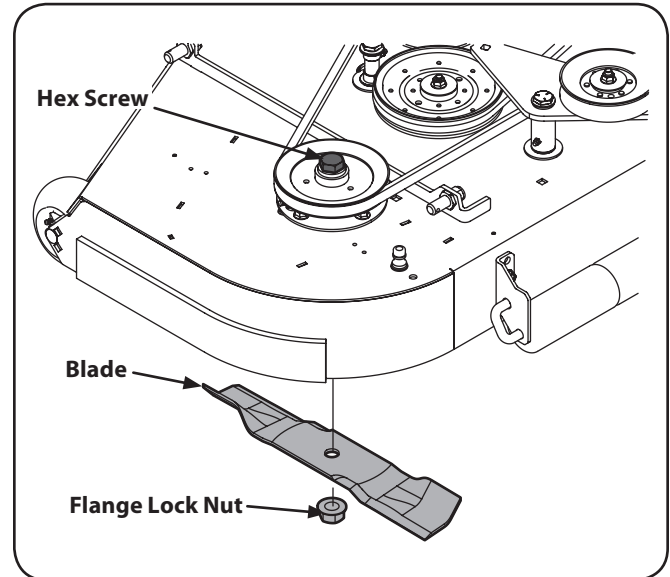

Figure 7-9
4. Use a 1-1/8" socket wrench on the pulley side of the spindle bolt. See Figure 7-9.